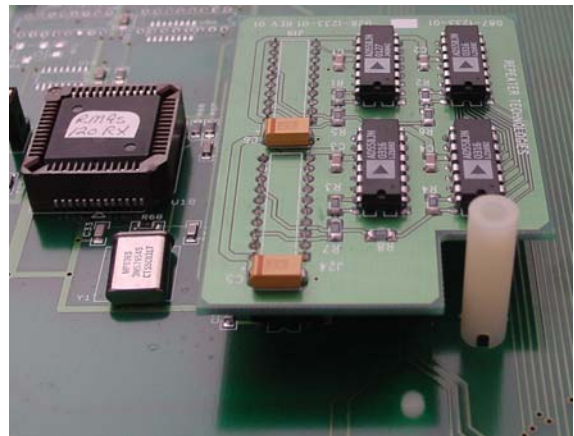

Figure 1 D/A Daughter Board, correctly installed
7.5. If the board is reversed, slide out the receiver PCB and then pull out the D/A daughter board from its socket. Orient the board so the notch is forward and re-insert into the socket. See the picture in Figure 1 below.